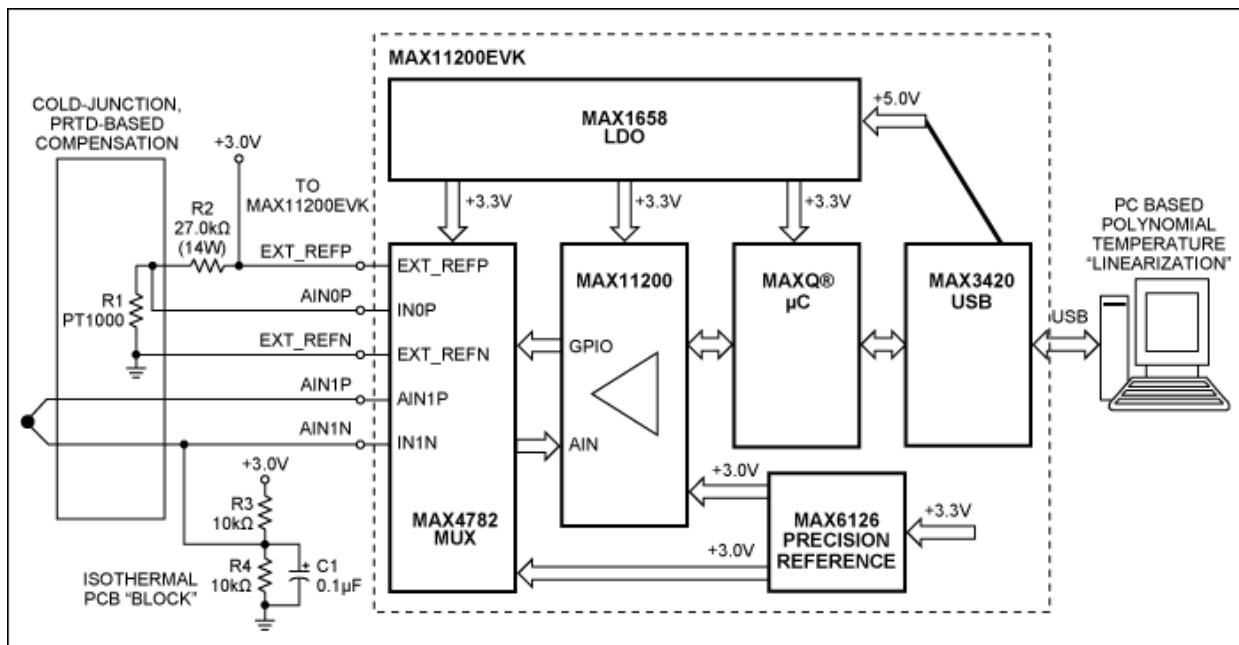

Figure 4. Simplified thermocouple DAS.
Figure 4 is a simplified schematic showing a precision DAS that uses the evaluation (EV) kit for the MAX11200 24-bit delta-sigma ADC and allows thermocouple temperature measurements. Here, R1 - PT1000 (PTS 1206, 1000Ω) is used for absolute temperature measurement of the cold junction. This solution allows the cold junction temperature to be measured with $\pm 0.30^\circ\text{C}$ accuracy, or better. [3]
As shown in Figure 4, the MAX11200's GPIO is set to control the precision multiplexor, the MAX4782, which selects
Figure 4 and **Figure 5** demonstrate that without proper compensation, nonlinear errors for the popular industrial type-K thermocouples could exceed tens of °C.
Table 3 shows the basic performance specifications of the MAX11200, featured in the circuit of Figure 4.
The MAX11200EVKIT offers a fully functional, high-resolution DAS. The EV kit can help a design engineer expedite real-life developments, such as verification of the schematic solution suggested in Figure 4.
On the Figure 4 schematic, the popular type-K OMEGA thermocouple (KTSS-116 [5]) was connected to differential EV kit input A1. The absolute measurement of the cold junction temperature was done using the cost-effective ratiometric method described in Maxim's application note 4875. [3] Output of the R1 (PT1000) was connected to EV kit input A0. The MAX11200's GPIO was set to control the precision multiplexor, MAX4782, which dynamically selects either the thermocouple or the PRTD R1 outputs connected to the MAX11200's input.
Figure 7 shows the development system for Figure 4. This system features a certified precision calibrator, Fluke®-724, used like temperature simulator to replace the type-K OMEGA thermocouple.